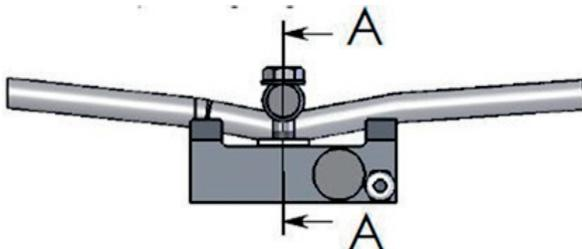

Fig. 5
2. Load the crane with a weight as close to the maximum load as possible, tighten the two bolts labeled as line A (fig.5) so the output signal is as close to 1.6 MV / V as possible (at a supply voltage of 10V, it will be 16mV. It must not exceed this). If bolts are fully tightened and 16V is not obtained, this is acceptable.